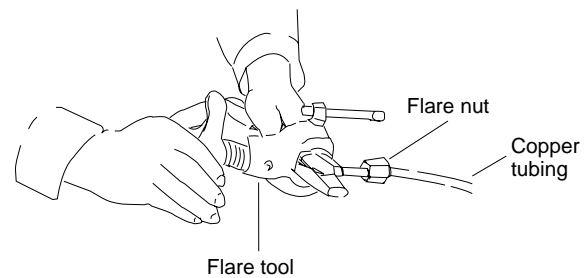

Fig. 5-3
- (3) Remove the flare nut from the unit and be sure to mount it on the copper tube.
- (4) Make a flare at the end of copper tube with a flare tool.\* (Fig. 5-3)